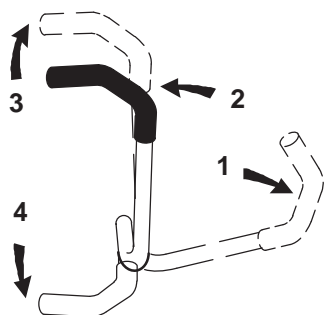

Figure 20
3. To go forward, slowly push the motion control levers forward (Fig. 20).
To go straight, apply equal pressure to both motion control levers (Fig. 20).
To turn, move the motion control lever toward neutral in the direction you want to turn (Fig. 20).
2. To go backward, slowly pull the motion control levers rearward (Fig. 20).
To turn, release pressure on the motion control lever toward the direction you want to turn (Fig. 20).